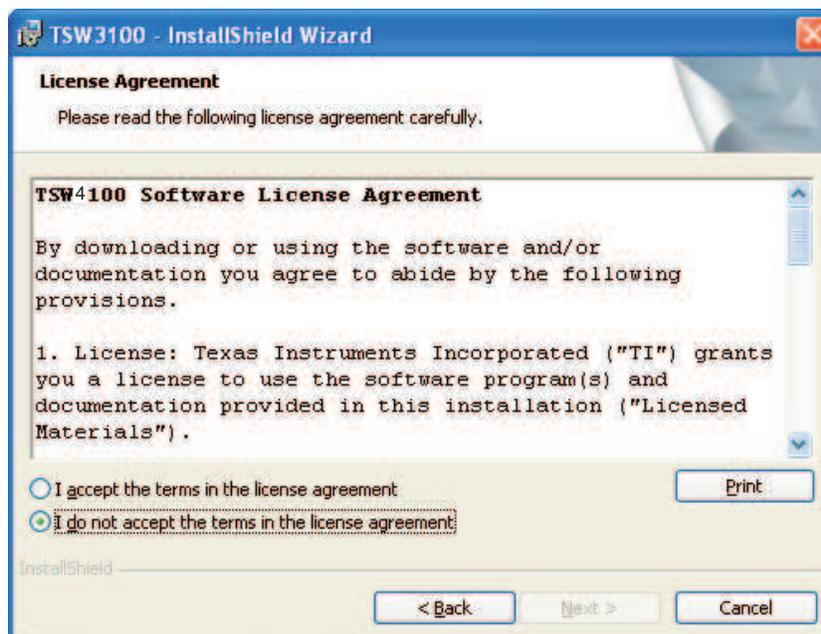

Figure 9. TSW4100 License Agreement
2. When the License Agreement (Figure 9) displays, select the *I accept the terms in the License agreement* option and click *Next* to accept the TSW4100 Software License Agreement.